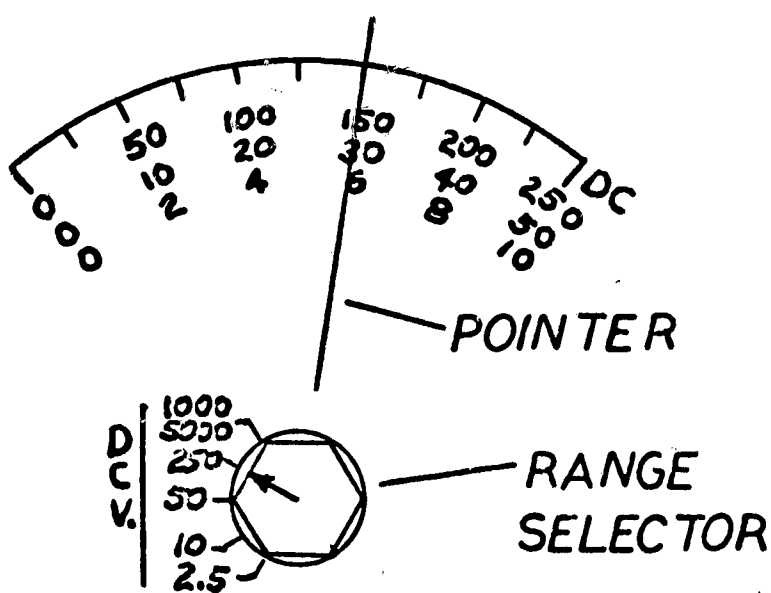

FIGURE 2.
3. If the RANGE SELECTOR is set at 250 V.D.C. and the POINTER is at 150 on the scale, the voltage being measured is 150 volts D.C. (see figure 2).